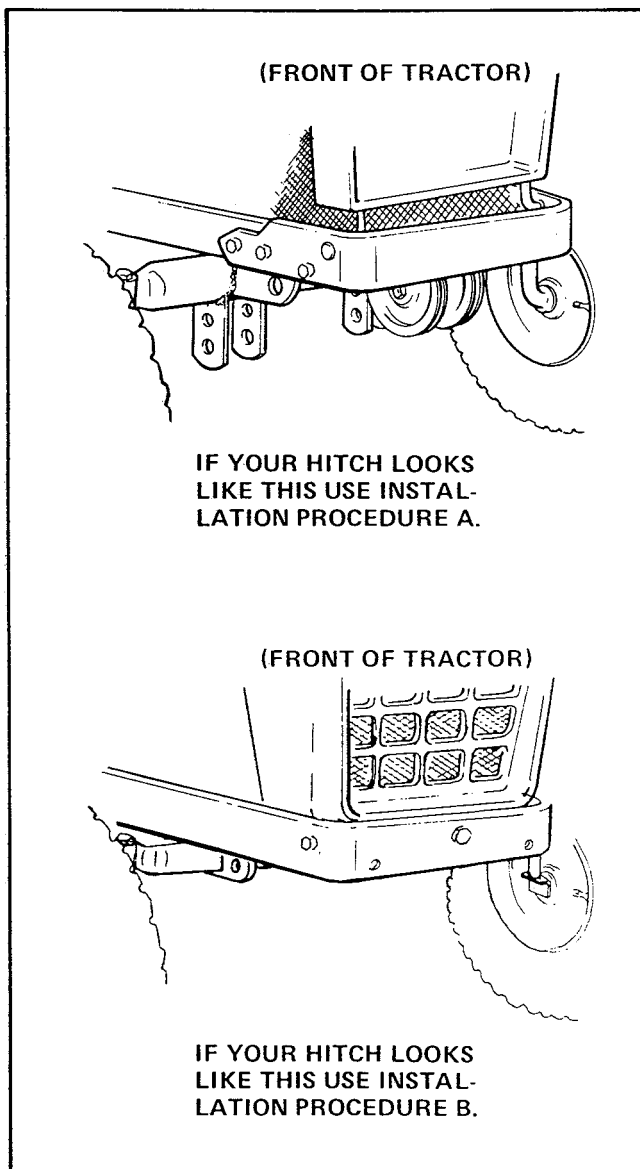
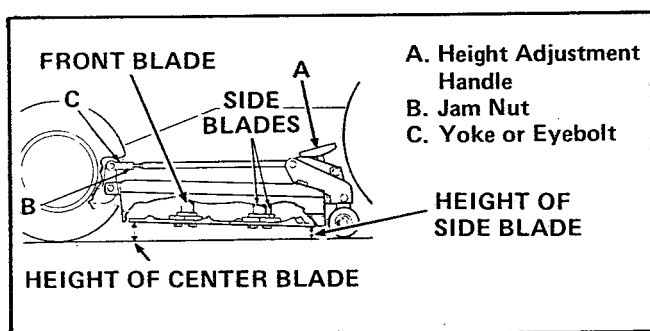
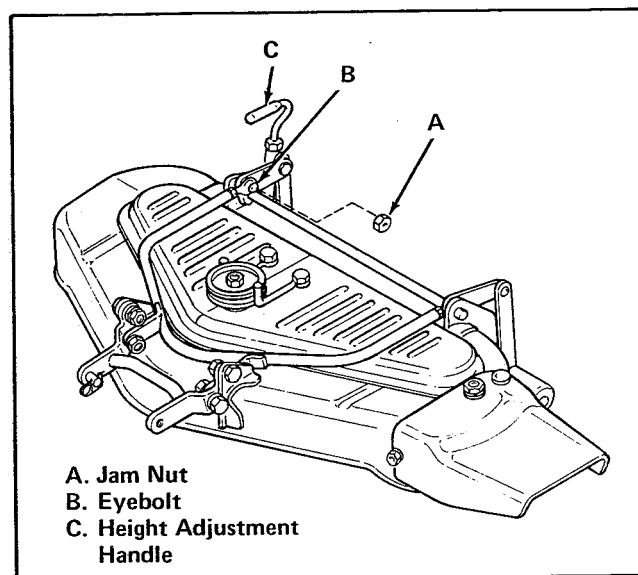

Figure 1. Front Tractor Hitch
Figure 10. Level Mower
Figure 11. 36" Mower
Two separate installation procedures are provided. Selection of the procedure that you should use is easy. Simply compare figure 1 to the hitch brackets at the front of your tractor.
- Turn both mower height adjustment handles (item A, figure 10) fully clockwise. The 36" mower has only one handle.
- Rotate the mower blades so the tips point straight forward and backward, as shown in figure 10.
- Loosen jam nuts (item A, figure 11).
- Disconnect eyebolts (B) from rear bracket.
- Loosen jam nuts (item B, figure 10).
- Disconnect the yokes or eyebolts (C) from the mower hitch.
- If the tractor you are using has two sets of mounting holes in the front tractor hitch, as shown in figure 1, the PTO lever must be adjusted. Refer to tractor manual.
The cutting height is adjusted by turning the two cutting height handles (item A, figure 10) equal amounts in the same direction. The 36" mower has only one handle (item C, figure 11). In either case, the cutting height can be adjusted anywhere within the mower's full range. The adjustment is best made above a hard level surface. To prevent early belt failures, never operate the mower unless the lift lever is completely lowered. Never use the lift lever for height adjustments.